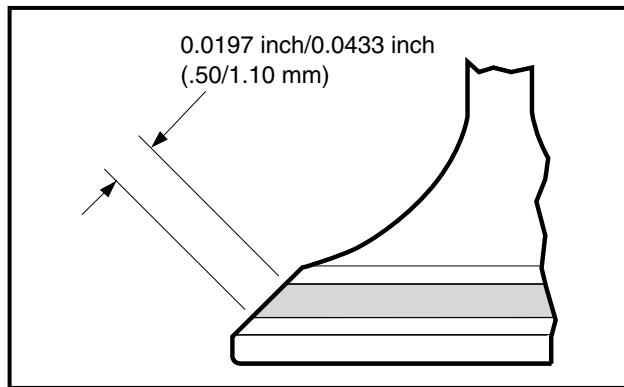

Figure 13-24 Check Mark on Valve Head
5. Pull the valve out, and check the mark on the valve head. It must be 0.0197 - 0.0433 inch (0.50 - 1.10 mm) in width, and even all the way around the seat and valve (**Figure 13-24, Page 13-15**)